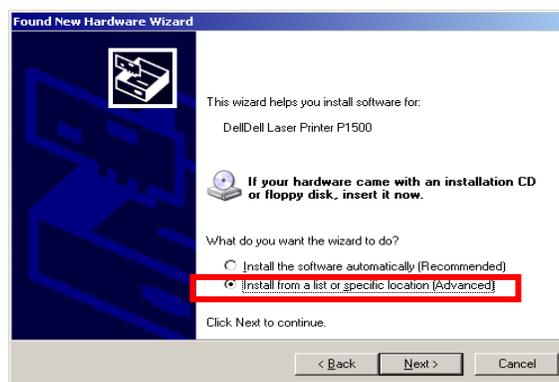

Figure 10-14 - Found New Hardware Wizard
- 9) Double click the Devices and Printers Icon as shown in Figure 10.14 below.